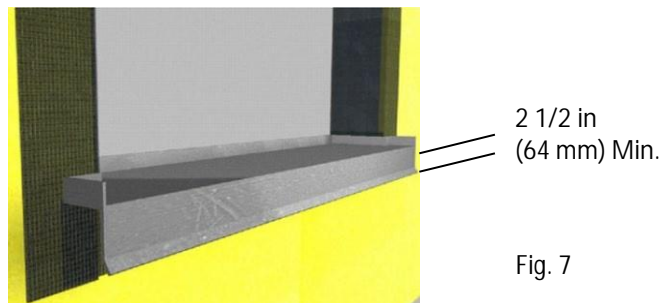

Fig. 7
- a. Install a watertight pan flashing at all sill locations - Figure 7.
- c. The flashing shall extend a minimum of 2 1/2 in (64 mm) down over the face of the Outsulation Plus MD System - Figure 7.